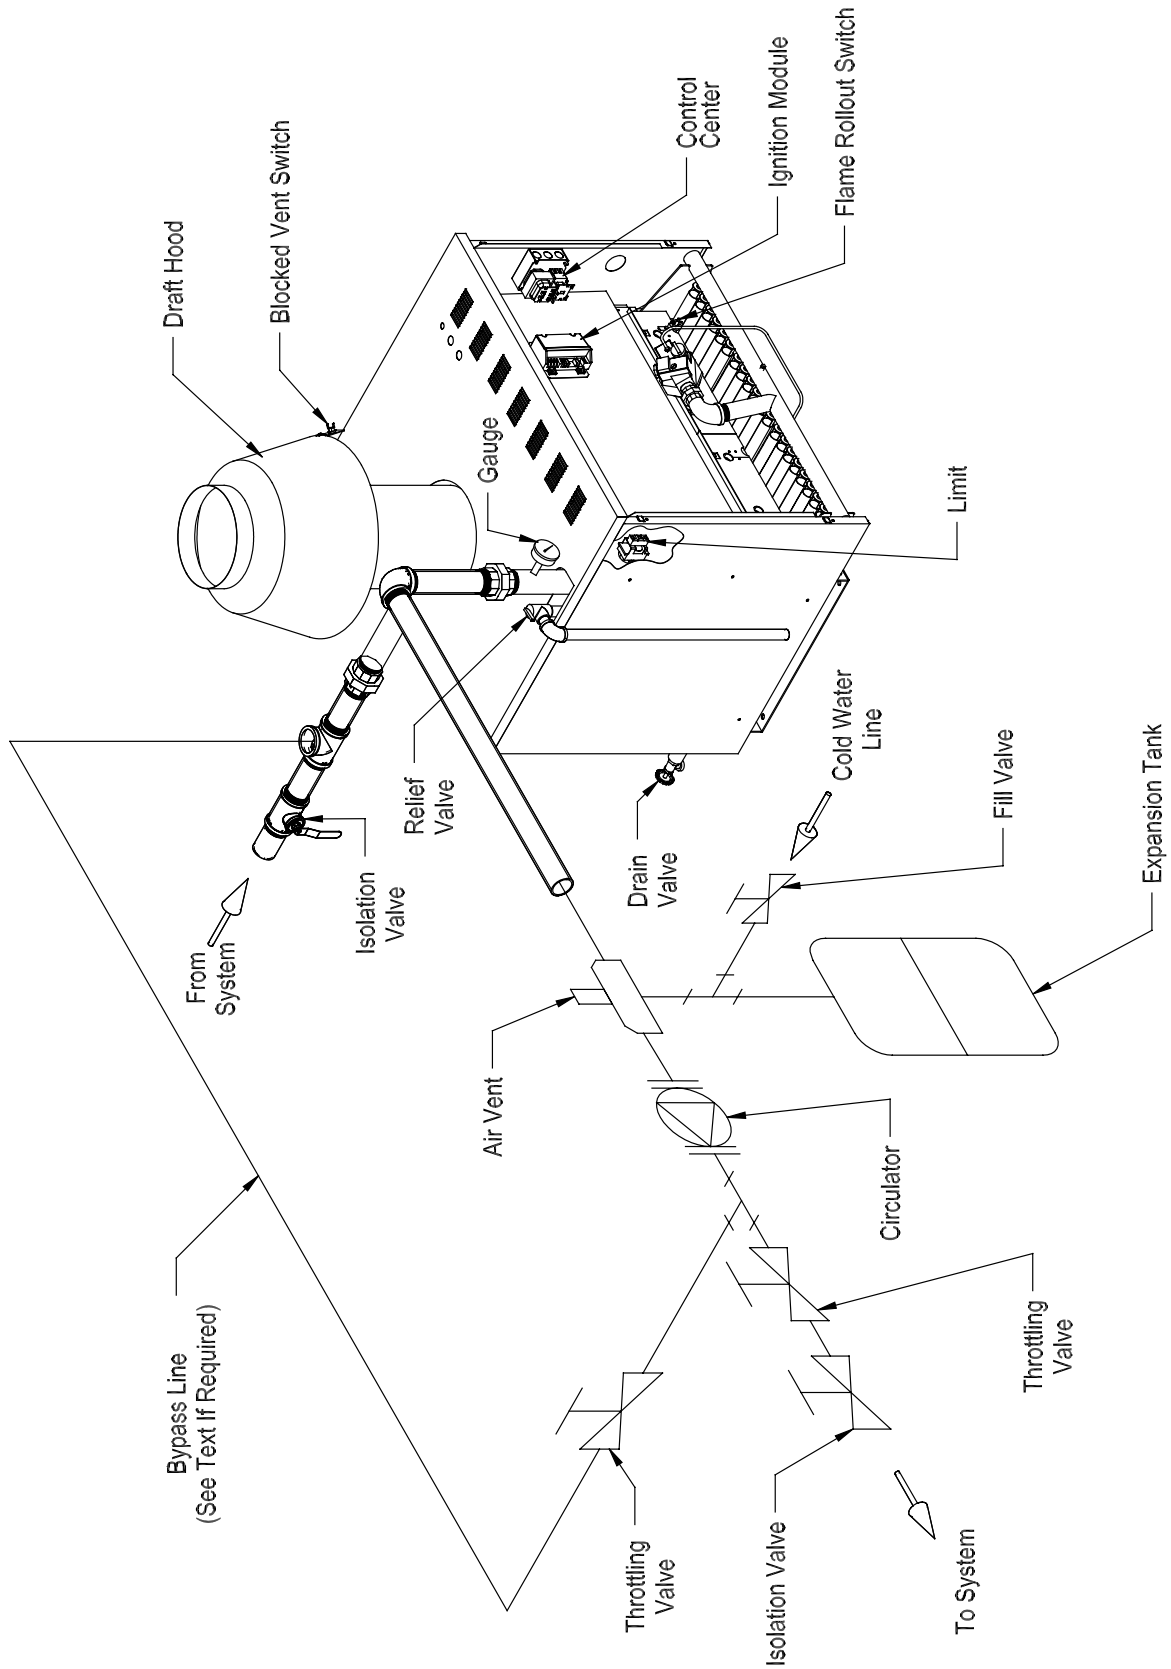

Figure 18: Standard Boiler Piping
- 1) Figure 18 shows typical boiler system connections on a single zone system. Additional information on hydronic system design may be found in *Installation of Residential Hydronic Systems* (Pub. #200) published by the Hydronics Institute in Berkeley Heights, NJ. The components in this system and their purposes are as follows:
- c. Circulator (Required) - The best circulator location is usually on the supply piping just downstream of the expansion tank as shown in Figure 18.
- a. Large Water Volume Systems - The bypass piping shown in Figure 18 will minimize the amount of time that the boiler operates with return temperatures below 120°F on these systems. A bypass is installed as shown to divert some supply water directly into the return water. The bypass pipe should be the same size as the supply. The two throttling valves shown are adjusted so that the return temperature rises above 120°F during the first few minutes of operation. A three-way valve can be substituted for the two throttling valves shown. If the circulator is mounted on the supply, the bypass must be on the discharge side of the circulator.